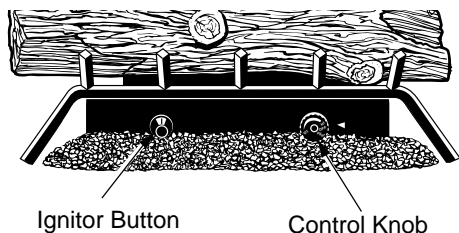

Figure 37 - Control Knob and Ignitor Button Location
4. Wait five (5) minutes to clear out any gas. Then smell for gas, including near the floor. If you smell gas, STOP! Follow "B" in the safety information, column 1. If you don't smell gas, go to the next step.
5. Turn control knob counterclockwise  to the PI-LOT position. Press in control knob for five (5) seconds (see Figure 37, page 20).